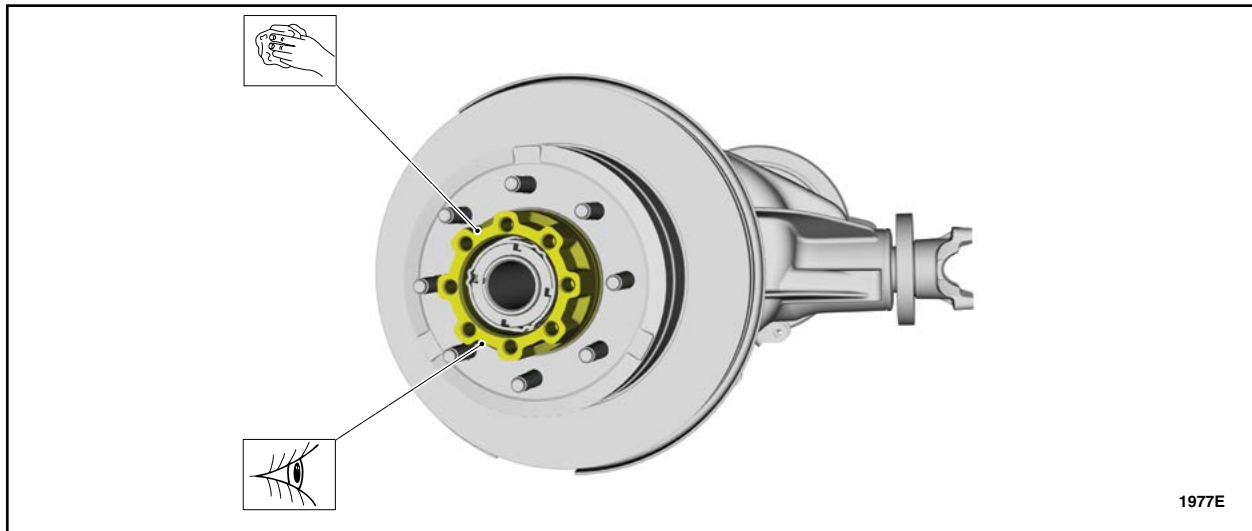

FIGURE 4
6. Clean and inspect the hub-to-axle shaft mating surface. See Figure 4.